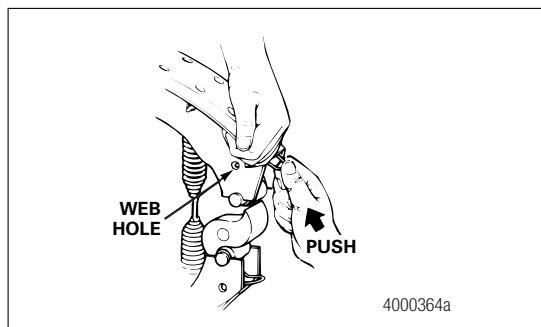

Figure 5.21
- Push the brake shoe roller retainer into the brake shoe until the ears lock into the shoe web holes. Figure 5.21.